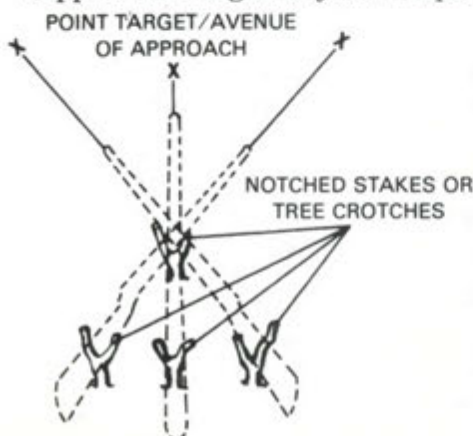
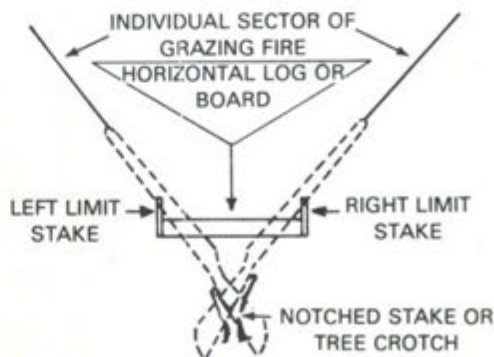

Figure 1.
Figure 2.
2. Prepare field expedient aiming, firing, and limiting stakes (notched stick or tree crotch, figure 1; rocks, board or log, figure 2) which are able to support the weight of your weapon.